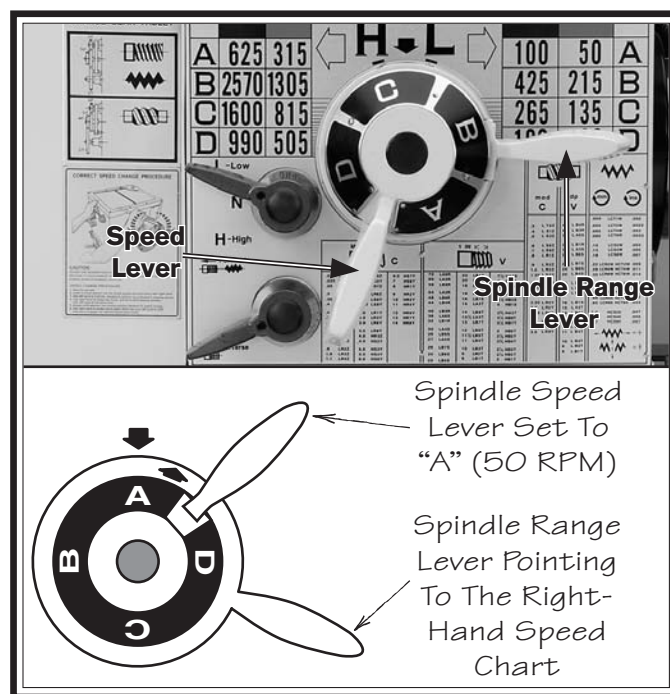

Figure 26. Spindle speed set to 50 RPM.
- a. Move the spindle range lever so that the arrow on top of its hub is pointing toward the right-hand spindle speed chart (see **Figure 26**).